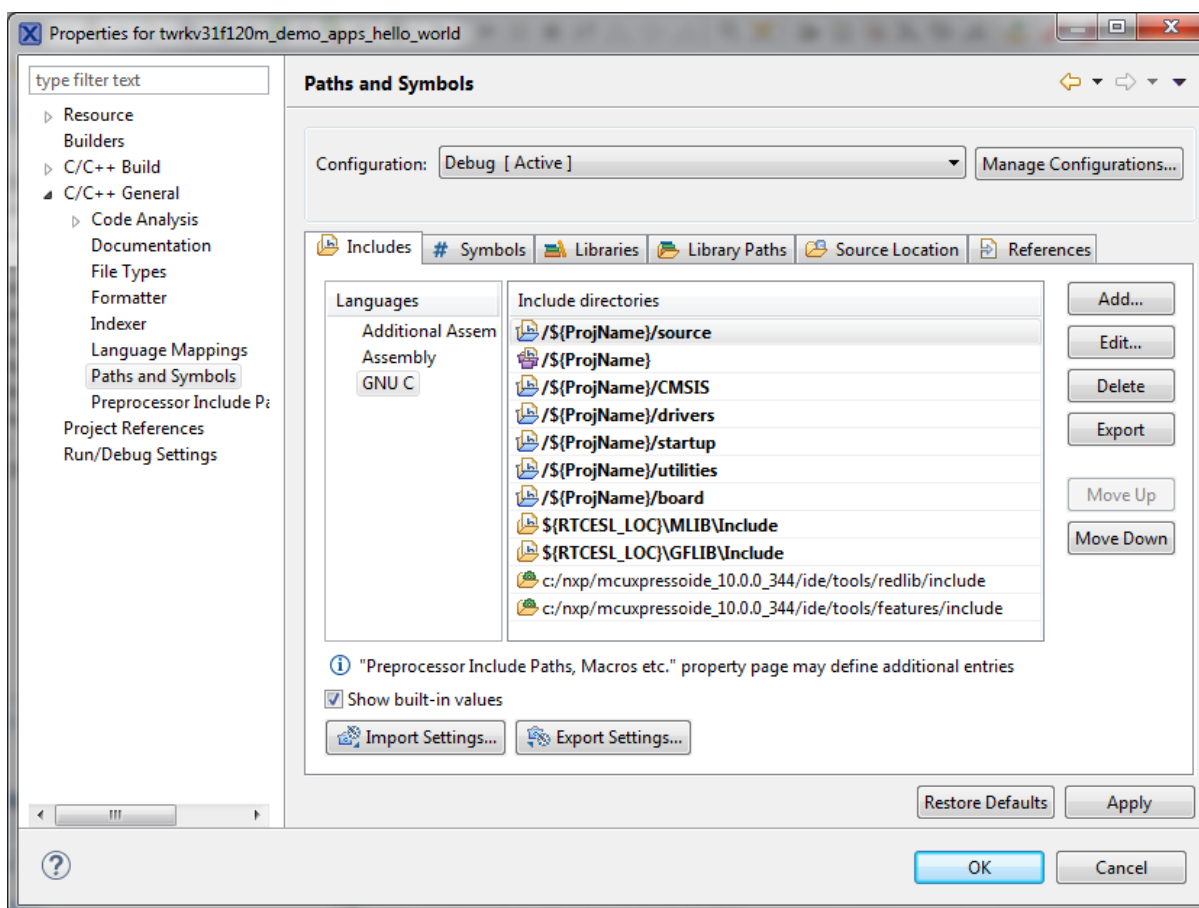

Figure 1-11. Compiler setting
15. In the right-hand dialog, select the Includes tab, and click GNU C in the Languages list. See Figure 1-11.
20. Click OK, and you will see the paths added in the list. See Figure 1-11. Click OK.